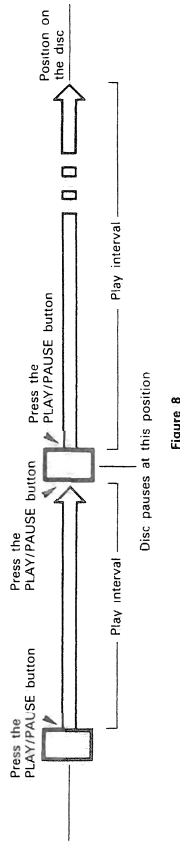

Figure 8
(6) Description of the PLAY/PAUSE, and CUE Operations
- The steps through which disc play is performed when the PLAY/PAUSE and CUE buttons are pressed are described with the aid of the following illustrations in Figures 8 through 10.
① PLAY and PAUSE
Pressing the PLAY/PAUSE button starts the disc play (Operation progress is shown by the arrows of Figure 8). Pressing the PLAY/PAUSE button again during disc play causes the play operation to pause, and pressing this button once more causes the disc to be played again.